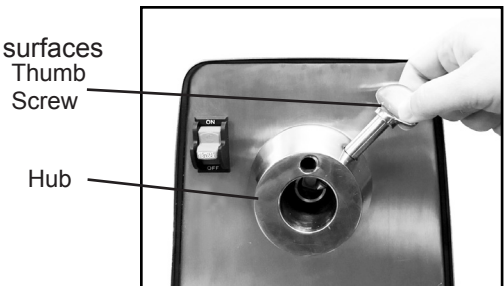

Figure 10-2
2. Loosen thumb screw by rotating it counterclockwise 2 to 3 times. Do not remove thumb screw (Figure 10-2).